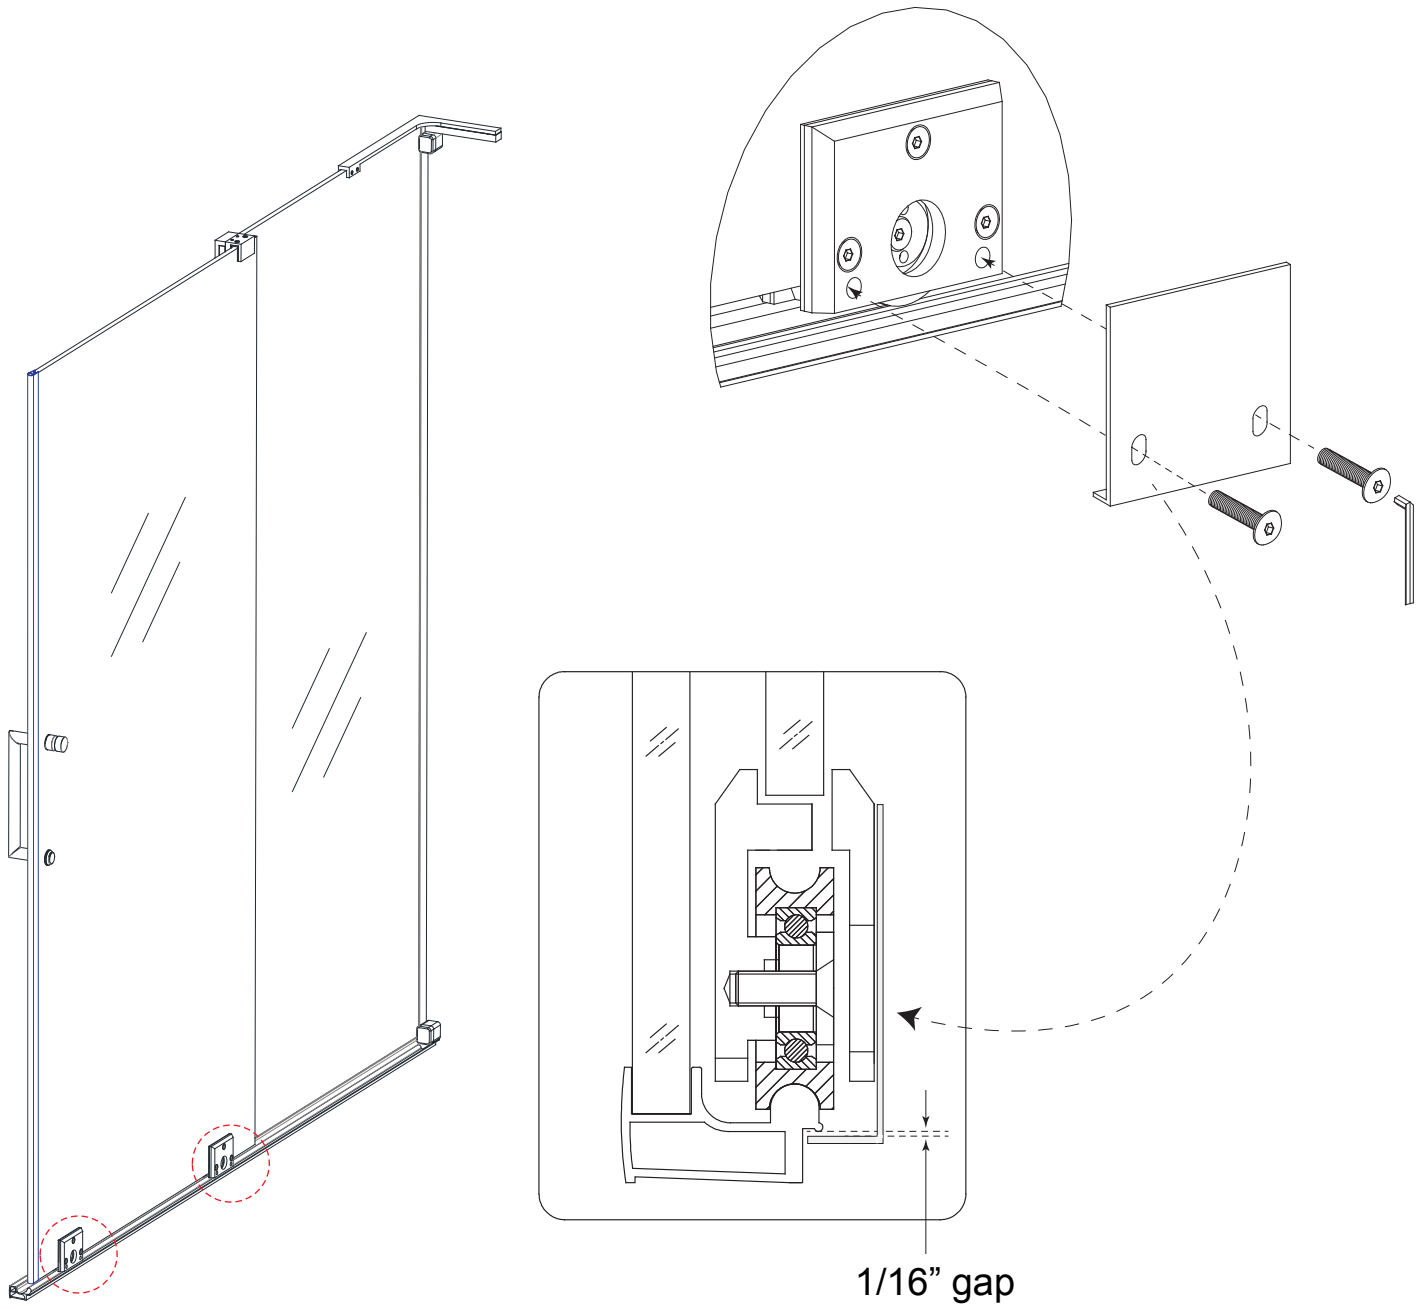

Fig 25
20. Attach the roller **Cover Plate (#10.8)**, leaving approximately **1/16"** of **clearance** beneath the bottom rail. Re-adjust the plate if it makes contact with the bottom rail. **(Fig 25)**